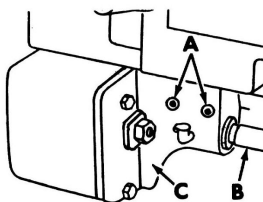
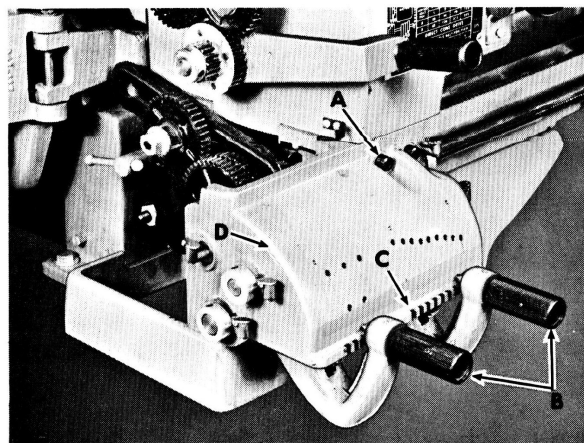

Figure 2
Figure 6
3. Remove screws (A, fig. 2) and slide feed gear assembly (C) off lead screw (B).
8. Fasten the quick-change gear housing (D, fig. 6) to lathe bed with screws (A, fig. 2). DO NOT tighten securely.